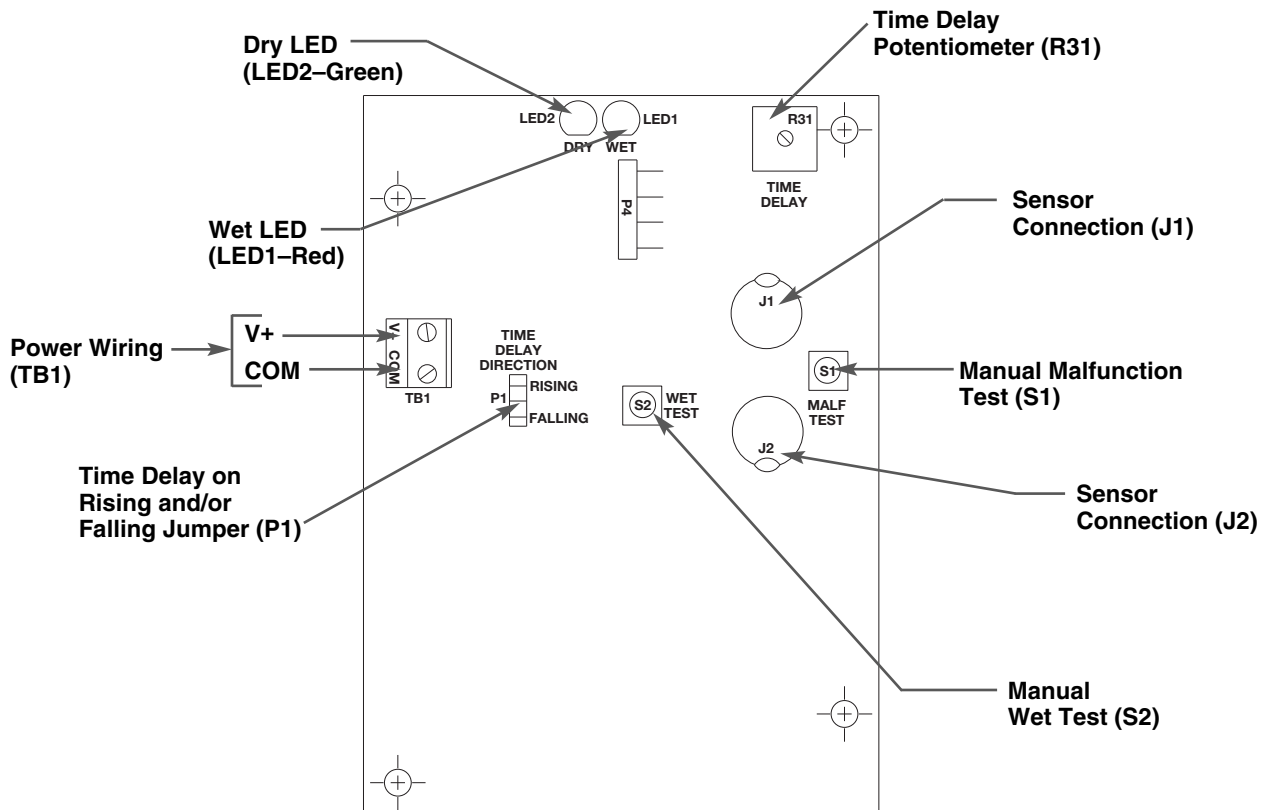

Figure 11
4. Connect power leads to proper terminals of TB1 on amplifier PC board as shown in Figure 11.
5. Run power leads to power terminal strip on left side of PC board. Refer to Figure 11 on page 9.